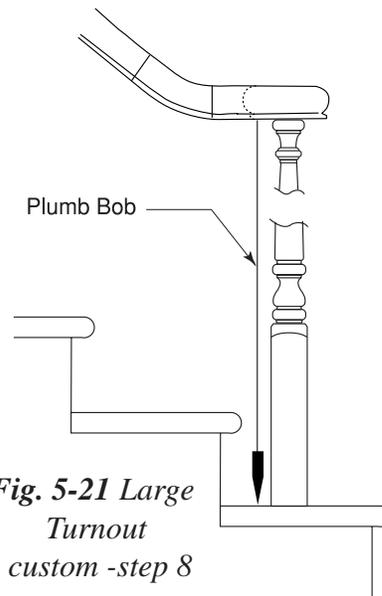

Fig. 5-21 Large
8. Using a plumb bob, mark a line on the tread that corresponds with the marks on the bottom of the large turnout. Please note Fig. 5-21 here.